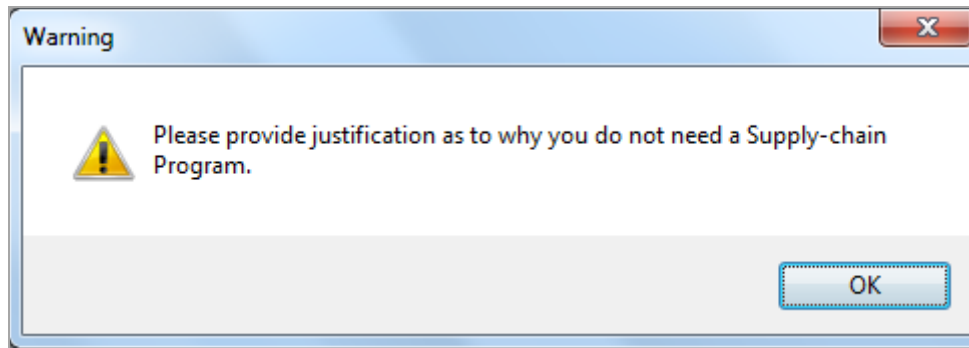

Figure 64: Justification message
- To delete a supplier, right click on the supplier name and confirm deletion as shown in Figures 64 and 65.